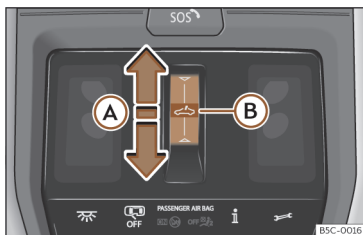

Fig. 89 On the interior roof lining: sunroof button.
- Automatic movement: slide your finger back over the functional area >>> **Fig. 89 (A)**.
forward over the functional area ↵ >>> Fig. 89 (A) and keep pressed until the sunroof is fully closed.